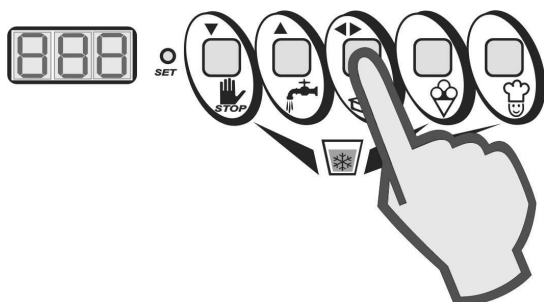

Fig.7
- Press the CONFIRMA (CONFIRM) key (◀▶) to validate the new data and exit programming (Fig. 7).